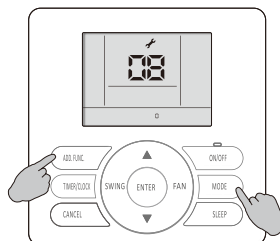

fig.4
1. Hold down both MODE button and ADD. FUNC. button for 3s, symbol  and parameter number blink at the same time. (See fig.4)